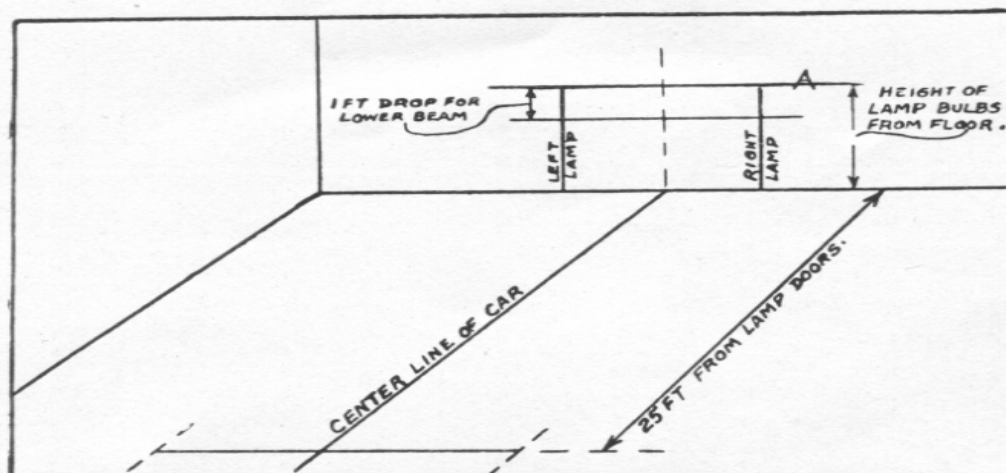

Fig. 4. Car Position
*Second*—Mark a horizontal line “A” (Fig. 4) on the wall at the height of headlight bulbs from ground. Next mark two vertical lines from line “A” to the ground, exactly in front of each headlamp center. The distance between these vertical lines should be the same as the distance between the headlight bulbs.